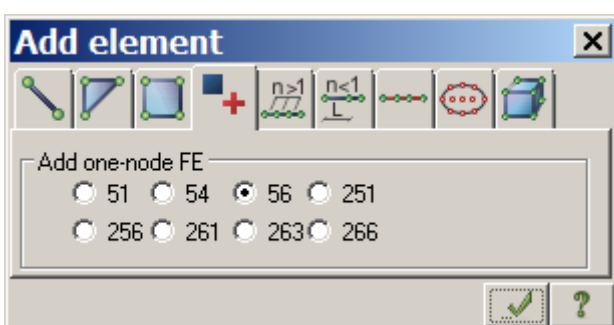

Figure 11.15 Add element dialog box
- ⇒ The **Add element** dialog box is presented with the **Add one-node FE** tab open (see Fig.11.15).